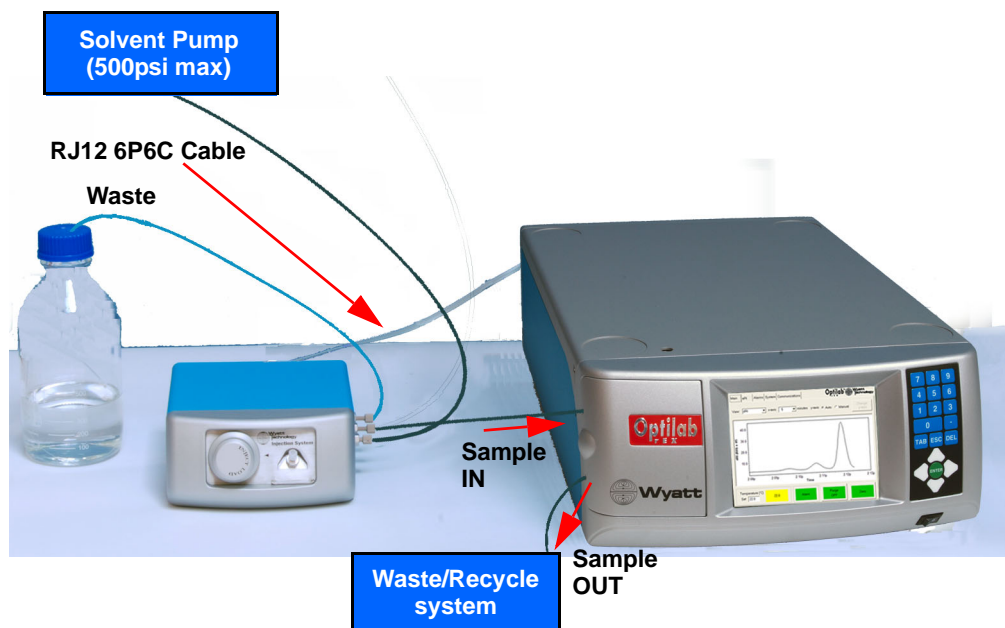

Figure 2-2: Low Pressure DNDC Injector with Optilab rEX Instrument
1. In order to facilitate plumbing, it is recommended that you place the DNDC Injector to the left of the instrument that will receive the injections (see Figure 2-2).